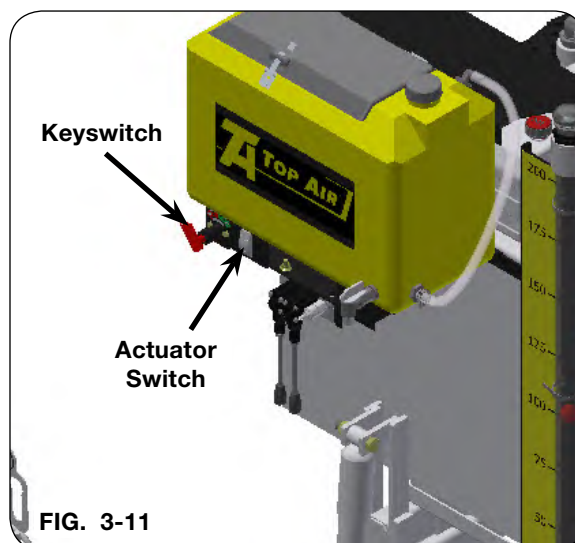

FIG. 3-11
2. Turn battery shutoff keyswitch to on. (FIG. 3-11)
4. Toggle actuator switch to unfold the boom. (FIG. 3-11)
5. Turn battery shutoff keyswitch to off. (FIG. 3-11)
3. Toggle actuator switch to fold the boom. (FIG. 3-11)